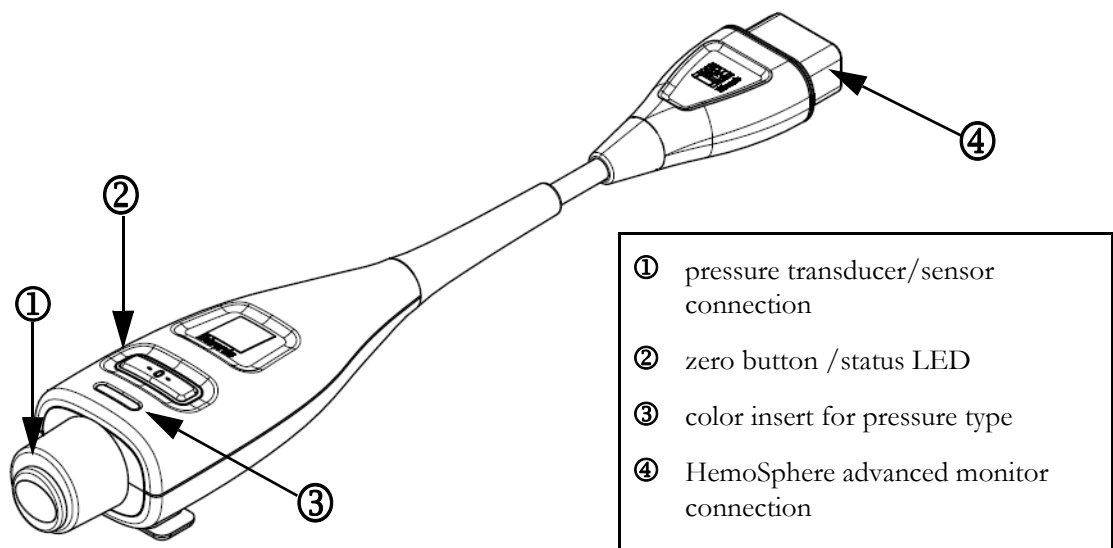

Figure 10-1 HemoSphere pressure cable
The HemoSphere pressure cable is a reusable device that connects with the HemoSphere monitor on one end ④ and any approved single Edwards disposable pressure transducer (DPT) or sensor on the other end ①. See figure 10-1 on page 165. The HemoSphere pressure cable acquires and processes a single pressure signal from a compatible Edwards DPT, such as the TruWave DPT, or a FloTrac sensor. A FloTrac or Acumen IQ sensor connects to an existing arterial catheter to provide minimally invasive hemodynamic parameters. A TruWave transducer can connect to any compatible pressure monitoring catheter to provide location based intravascular pressure. Refer to the directions for use provided with each catheter for specific instructions on catheter placement and use, and for relevant warnings, cautions and notes. The HemoSphere pressure cable can be monitored through two technology monitoring modes based on the paired sensor/transducer: **FloTrac** or **Acumen IQ** sensor monitoring mode or **Swan-Ganz** catheter monitoring mode. The monitoring mode appears on the top of the navigation bar (see figure 5-2 on page 84). The appearance and connection points for the HemoSphere pressure cable are shown in figure 10-1.
Pressure Type Color Insert. If desired, the appropriate color insert can be used on the pressure cable to indicate the monitored pressure type. See ③ in figure 10-1 below. The colors are as follows:
- Red for arterial pressure (AP)
- Green for cardiac output (CO)
- 7 Use a straight in or out motion to connect the green connector of the primed FloTrac sensor. The pressure cable LED that surrounds the zero button (see ② in figure 10-1) will flash green indicating that the pressure sensor is detected. A yellow light indicates a fault condition. If this occurs refer to the status bar for specific fault condition details.
- Press the physical zero button  directly on the pressure cable and hold for three seconds (see figure 10-1).